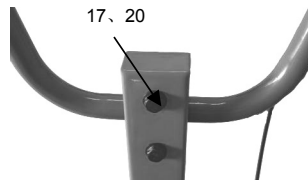

**Figure 7**
5. Refer to figure 7 to install the Girder.